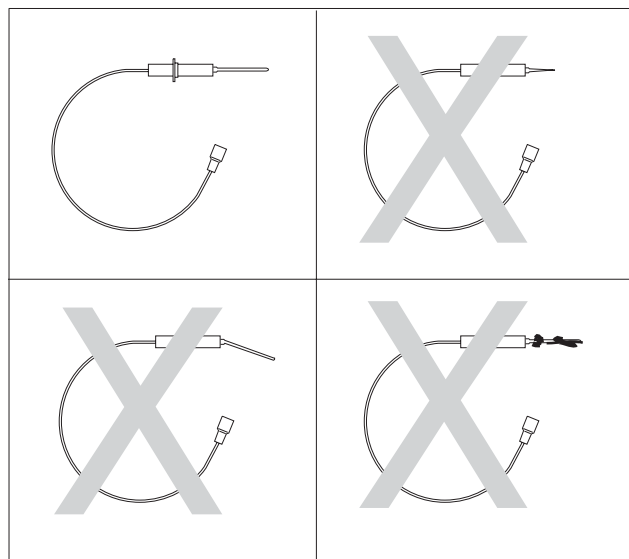

fig. 120 Checking the ionisation electrode
- Check the ionisation electrode (fig. 120) and the glow ignitor for dirt, wear or damage.